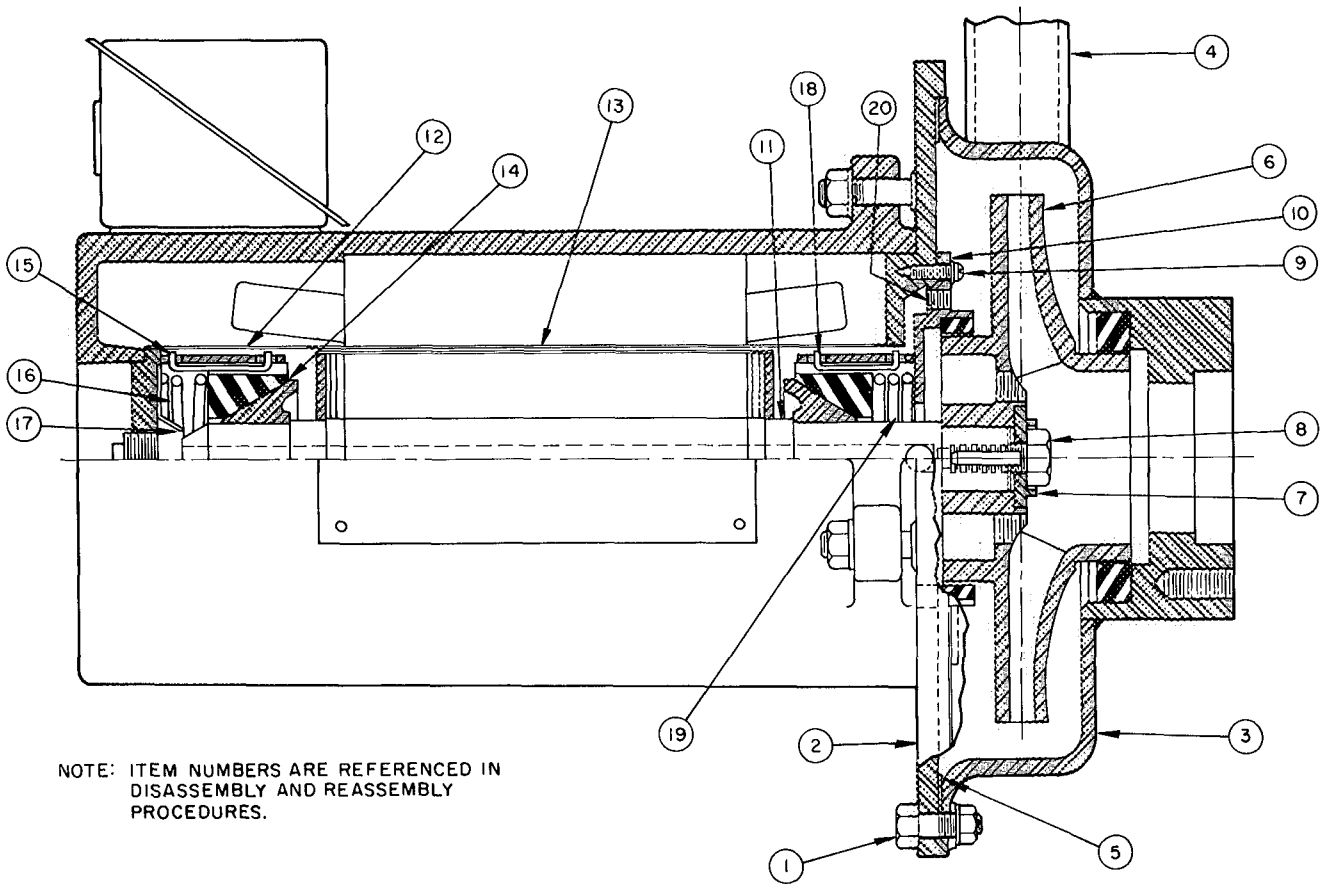

Fig. 2 - F-8 Frame Pumps
DISASSEMBLY PROCEDURES - Refer to Fig. 2 and Fig. 3.
3. Pull stator and adapter flange straight back from pump casing. If paint has frozen flange to casing, gently pry between adapter flange and pump discharge pipe (item 4) until paint seal is broken.
4. Remove and discard gasket (item 5).
5. Remove impeller (item 6) by straightening locking tabs on impeller lock washer (item 7). Prevent impeller from rotating while removing locking bolt (item 8). Remove impeller key in the shaft.
- a. F-8 Frame Pumps (Fig. 2) - Unbolt cap screws (item 9). Remove bearing and wearing ring housing (item 10).
REASSEMBLY PROCEDURES - Refer to Fig. 2 and 3.